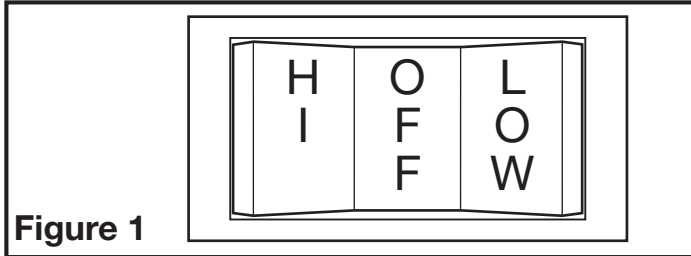

Figure 1
2. Plug cord into a properly grounded three-prong 120 V outlet and select the desired speed setting from the control switch located on the side of the fan (Figure 1).